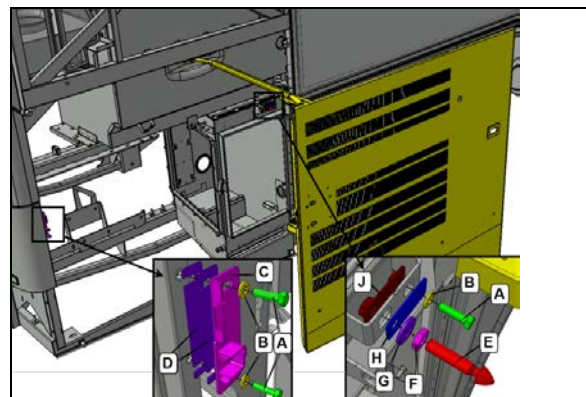

FIGURE 113
9. Install strike plate C and pin E centered in the available adjustment position provided by respective slotted holes (FIGURE 113). The components should be snug but not tight so that they can move when the door will be closed later on in this procedure.